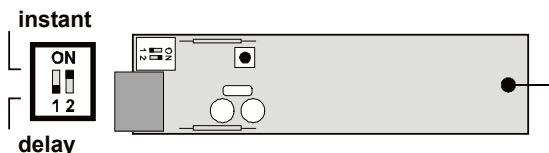

Figure 2 The JA-60N transmitter
5. To enroll the barrier to a Jablotron alarm system insert its battery into the RX unit (white mark) while the receiver (JA-63KR, UC-260 etc) is in enrollment mode (see also the installation manual of the receiving unit). Set the reaction of the barrier by DIP switch number 1 on the JA-60N transmitter (see Figure 2):